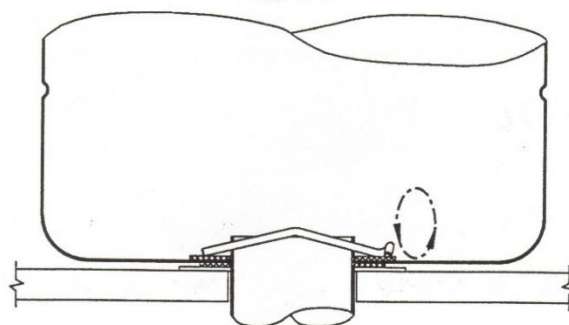

Figure 4
2. Rotate the latch pin 180° as shown in Figure 4. The rotated pin secures the drying chamber to the base unit and compresses the rubber gasket to provide a leak tight vacuum seal.